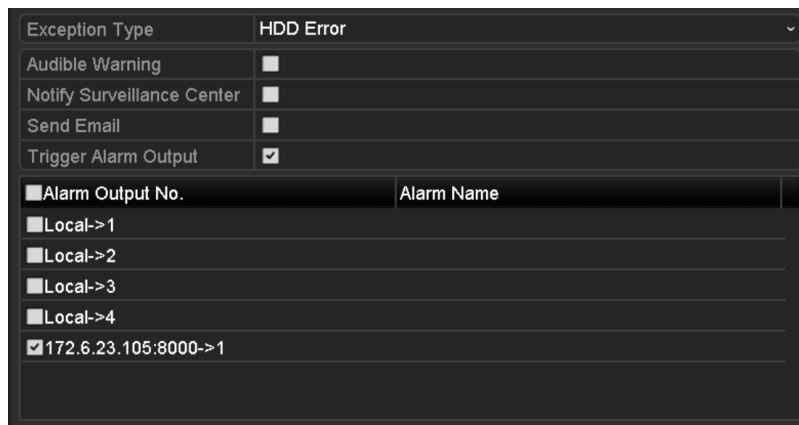

Figure 13-29 Configure HDD Error Alarm
Step 3 Click the checkbox(s) below to select the HDD error alarm type (s), as shown in Figure 13-29.